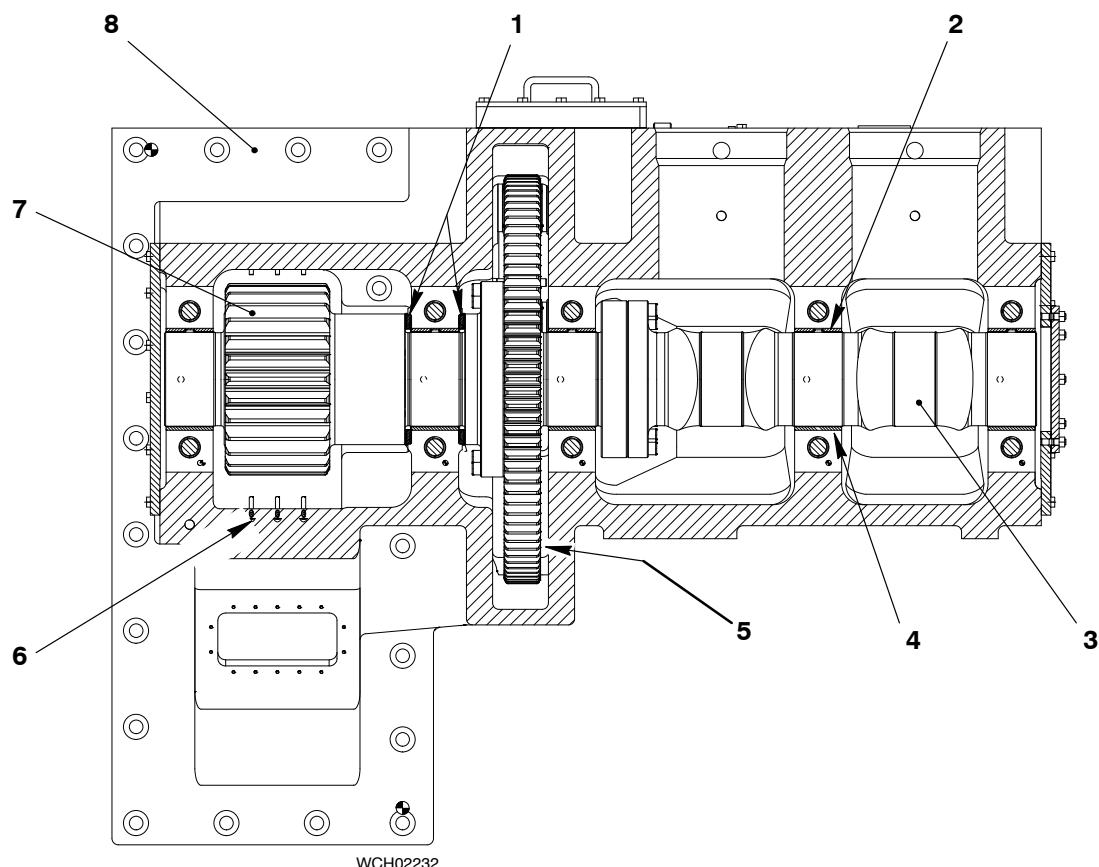

Fig. 2: Location of Items
Oil flows through bores in the casing (8, Fig. 2) to lubricate the bearings and fuel pumps. Oil also flows through the nozzles (6) to lubricate the intermediate wheel (7) and the gear wheel (5).